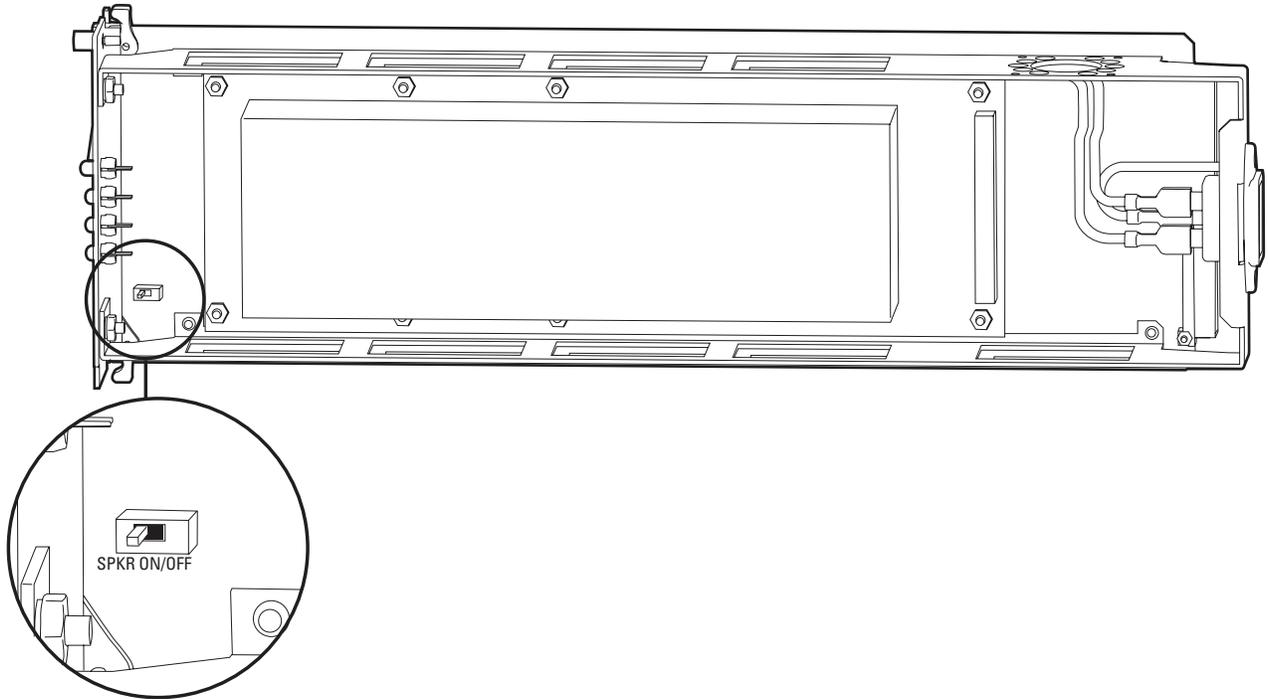

Figure 19. Power Supply Alarm Speaker Switch
3. Move the speaker switch to the OFF position (refer to Figure 19).